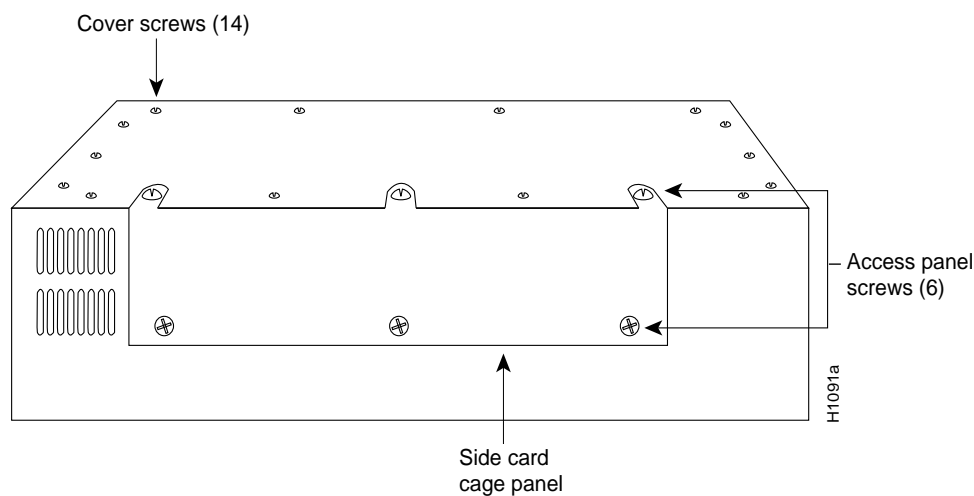

Figure 6 Screw Locations on the MGS Chassis Exterior—Side View
- Step 5** To access the cards in the card cage, locate the three flat-blade screws that secure the card cage access panel. (See Figure 6.) These screws are located on the top of the MGS chassis access panel.
- Step 8** To access the other chassis components, use the No. 1 Phillips screwdriver to remove the 14 screws that secure the top cover of the MGS chassis. (See Figure 6.) Set the top cover aside.